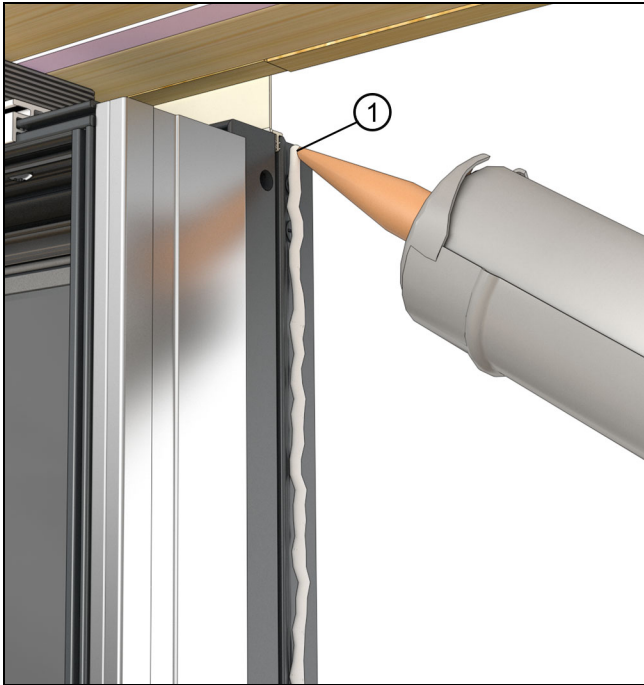

Figure 76
1. Apply a continuous 1/4" (6) bead of sealant along the length of the frame. See Figure 76.